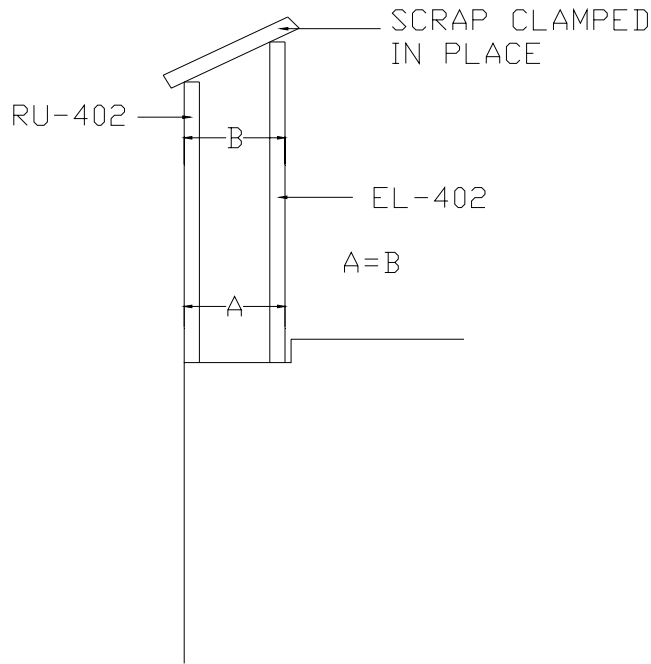

Figure 5.3.2
2) Cleco the lower Tip Rib (EL-402) into place. Use a piece of scrap clamped to the nose of the ribs to keep them parallel. Figure 5.3.2.